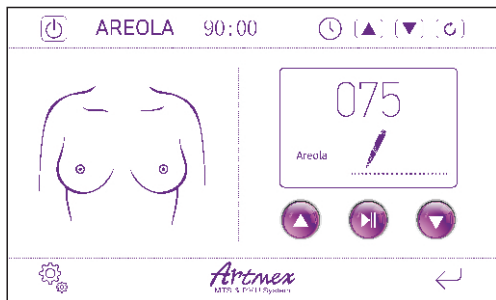

Fig 11
7. Click “ **Areola** ” to enter the interface as(Fig 11)